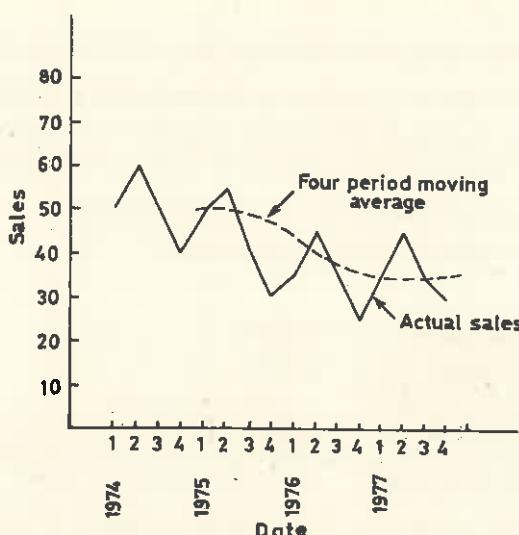

Fig. 7.4. Comparison of moving average forecast sales with actual sales.
- Fig. 7.4 shows that the effect of the moving average is to smooth the sales pattern and it is therefore of more value in establishing trends.